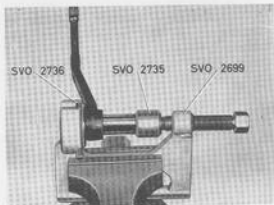

Fig. 6-66. Fitting rubber bush, relay arm
5. Turn the relay arm and press in the new bush with 2699 + 2736 and drift 2735 (Fig. 6-66).
6. Place the relay arm in position, fit the washer (7) and nut.